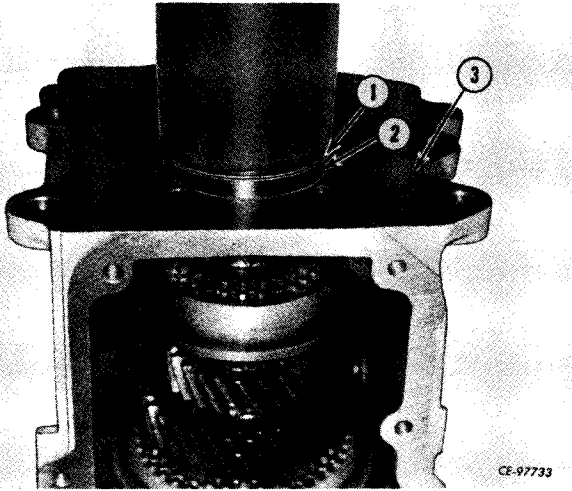

Figure 4-57
Using a suitable press install bearing (2, Fig. 4-57) in housing (3).